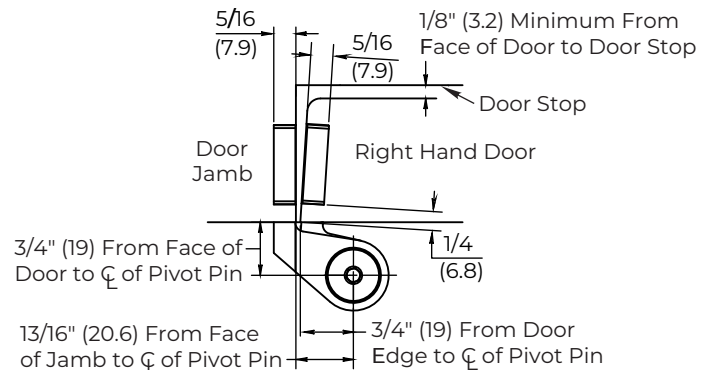

Figure 2
2. Locate pivot(s) so that it is vertically in alignment with centerpoint of top pivot and bottom spindle and mark pivot leaf locations on door and frame. (Figure 2)